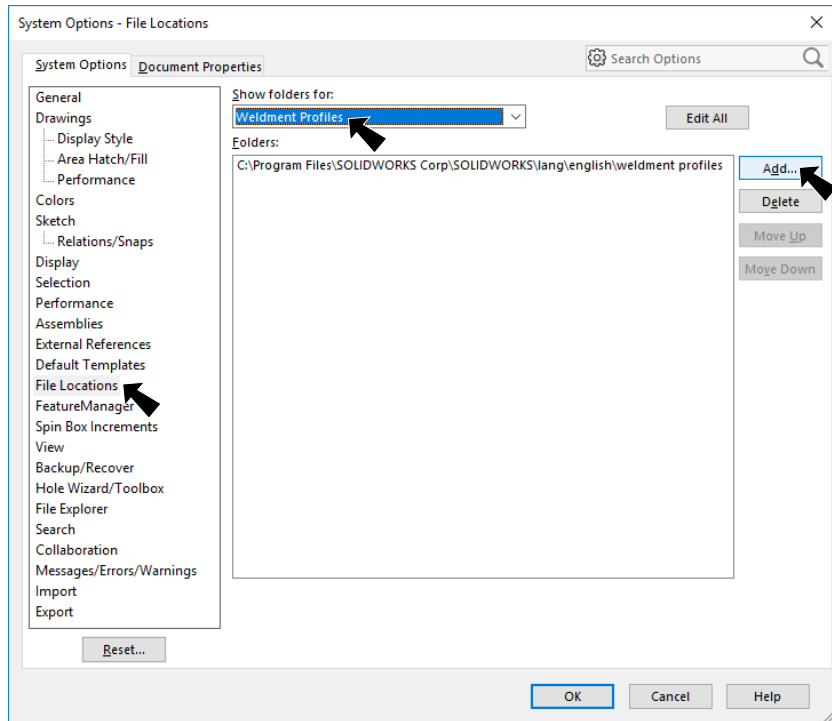

Fig. 20
Step 2. In the System Options dialog box, **Fig. 20** select **File Location** on left under **Show folders for:** select **Weldment Profiles**.
Click **Add** button, **Fig. 20**.
Note the path to Weldment Profiles, **Fig. 20**.